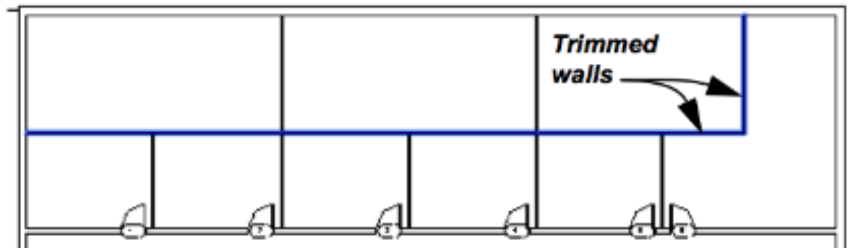

Figure 2–74
- In the *Modify* tab>Modify panel click  (Trim/Extend to corner) and select the two walls to trim as shown in Figure 2–74.